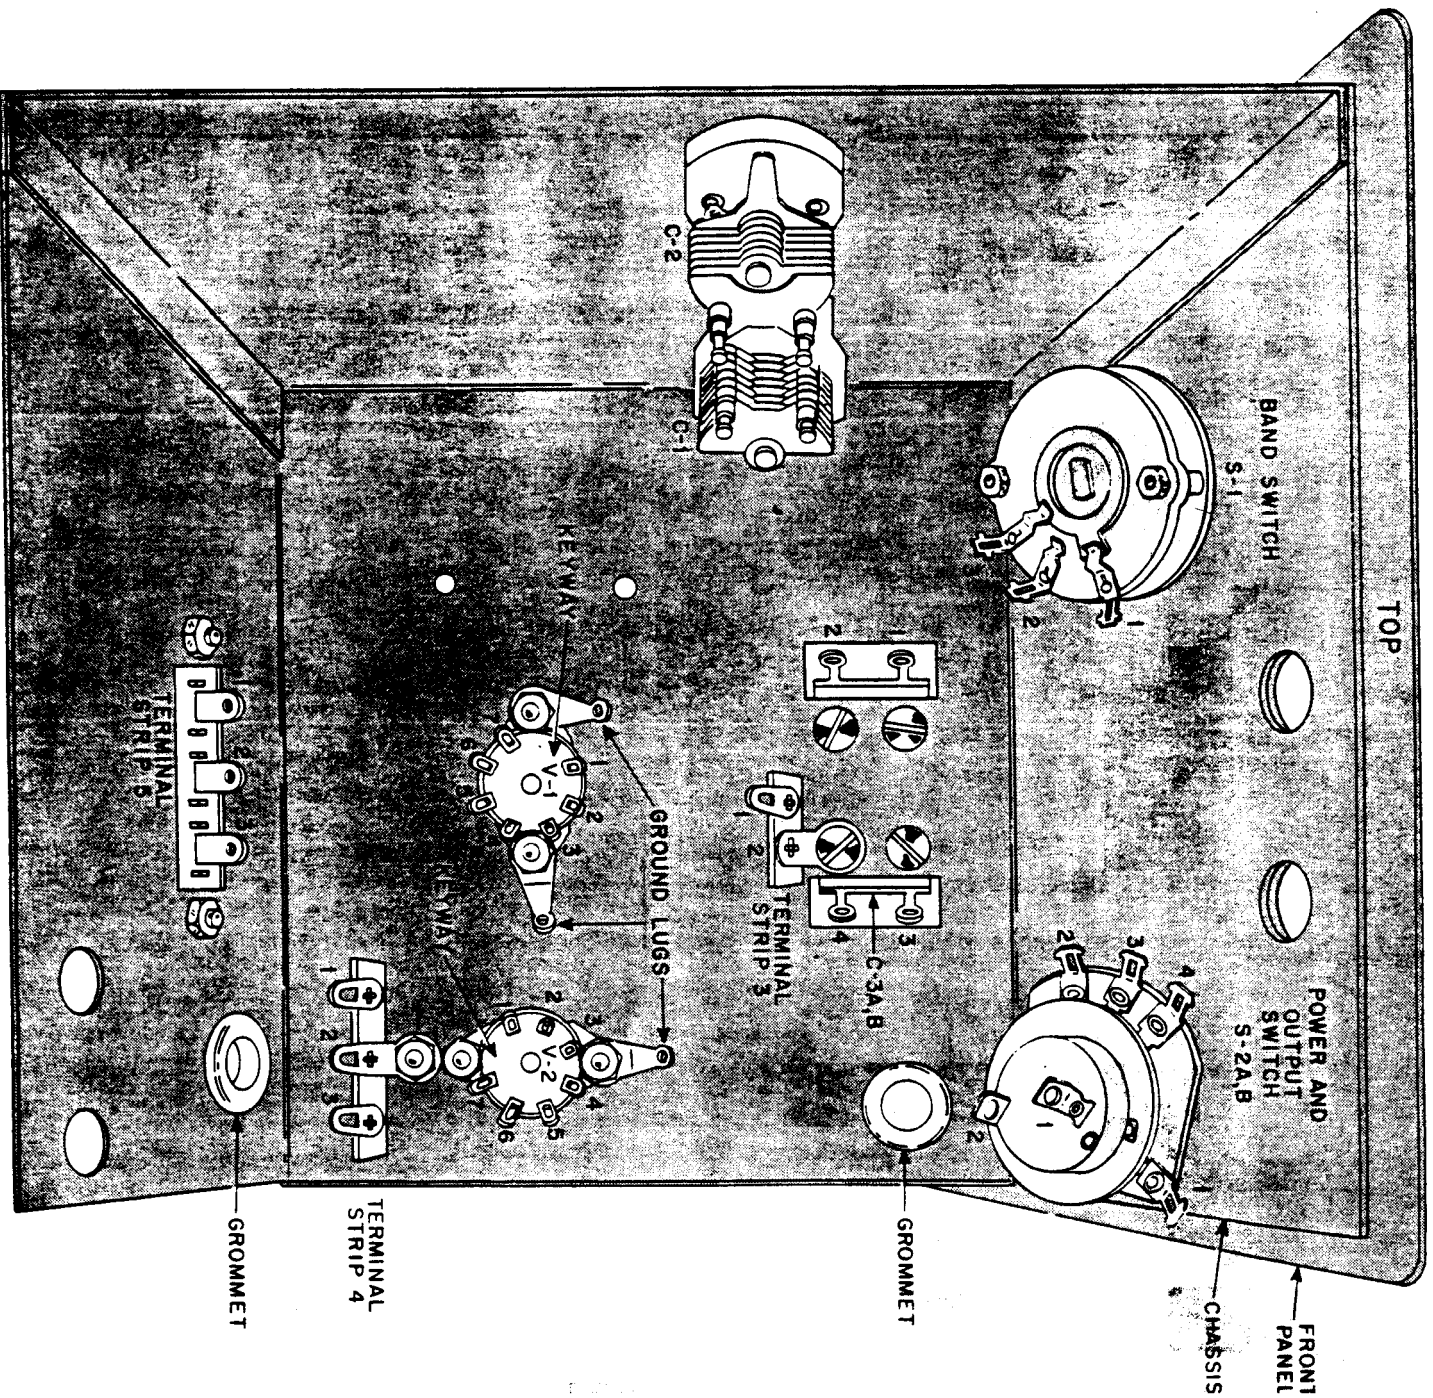

FIGURE 6. HOW TO MOUNT THE PARTS ON THE OSCILLATOR CHASSIS
SEE FIGURES 6 AND 7.
SEE FIGURE 6.
- () Mount the light colored socket for V-1, the 6BH6 oscillator tube, inside the chassis in the large hole nearer the center. The keyway or wide space between two of the pins must be toward the left as shown in Figure 6. Place a ground lug under each mounting nut and use two of the smaller machine screws and nuts to fasten V-1.
- () Mount the last bakelite socket for V-2, the 6AK6 buffer tube, from inside the chassis. The keyway or wide space between two of the pins must be toward the back of the chassis as shown in Figure 6. Put a ground lug under the front mounting nut and use two of the smaller machine screws and nuts to fasten V-2.
SEE FIGURES 6 AND 8
- () C-1 and C-2 are both 75 MMFD air padder capacitors. Mount one on the left inside the chassis as shown in Figure 6. Use two of the four machine screws packed with C-1 and C-2. Use the other two machine screws to mount the other air padder right above the first.
- () Check all of the work. Be sure the parts are positioned as shown in Figure 6. The socket keyways must be as shown, the terminals on the switches must be toward each other, and the air padders must be as shown.